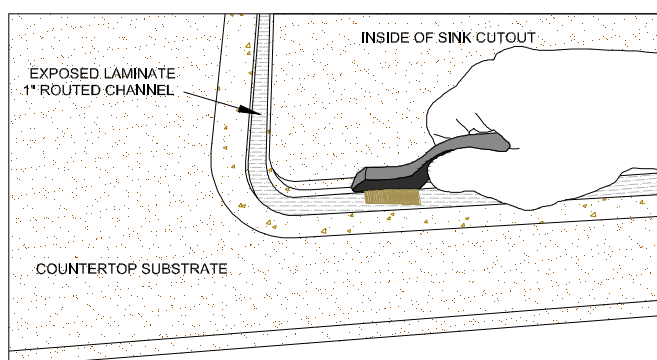

Figure 10D
- Using a wire brush remove any remaining substrate or adhesive residue from the exposed laminate. Blow off all residue with compressed air. (FIG. 10D)